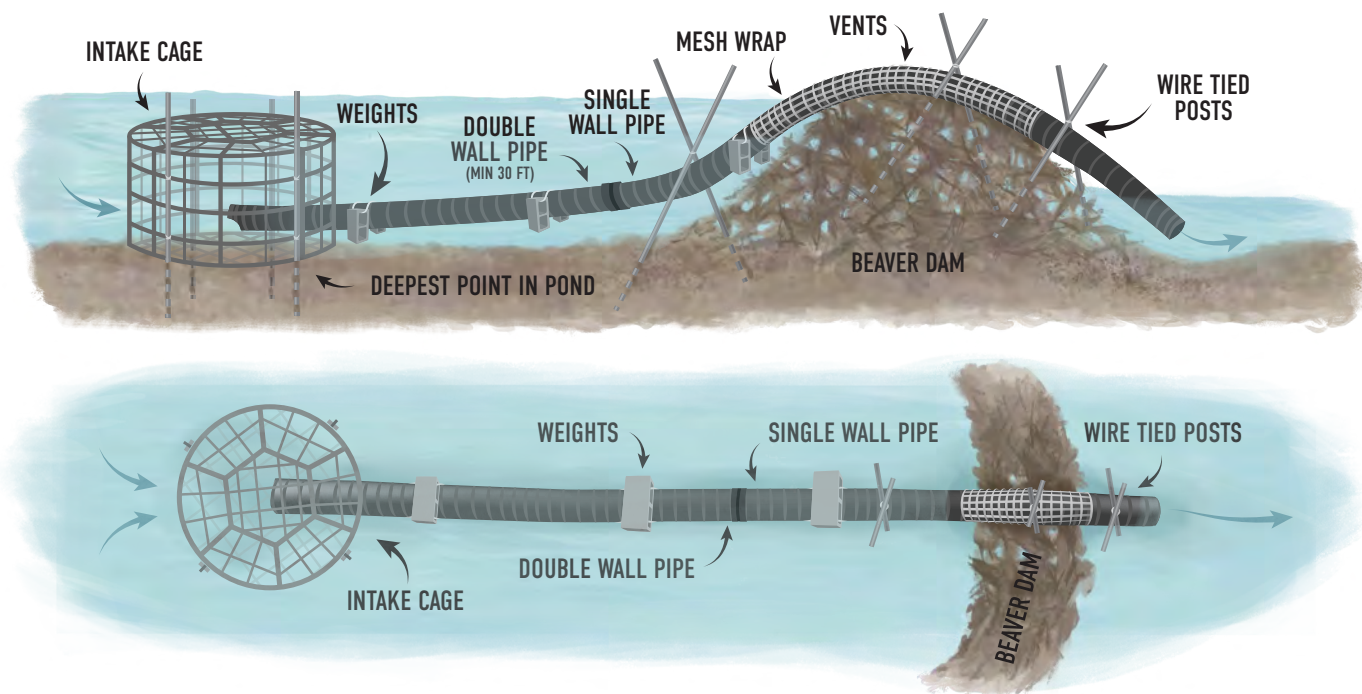

Figure 1. Standard pond leveler with no modifications.
Pond levelers are a coexistence solution for conflicts between beaver-facilitated wetland habitat and human infrastructure, crops, or homes. These flow devices are applicable when the landowner is willing to allow the beaver dam and pond to remain but wants to control the maximum water height. The goal of a pond leveler is to minimize the disruption to the beaver family and their habitat, so they do not abandon the site, while establishing a maximum water height and footprint which protects the landowner's assets. Pond levelers set the water surface elevation of a beaver pond by using a plastic culvert pipe to create a leak over the crest of the dam that beavers cannot repair. The intake for the leak is hidden upstream within the beaver pond and is enclosed within a cage to keep beavers from swimming near enough to sense the flowing water. Similar to an overflow drain on a bathtub which limits the water depth, a pond leveler leaks water over the crest of the beaver dam at a desired water surface height during the low flows when beavers might otherwise increase the height of the dam (Figure 1). The outlet of this pond leveler is placed downstream of the dam.
- **Stabilized flow device:** Staking the intake cage is only necessary where the intake cage is subjected to discernible flows. At these sites, firmly stabilize the intake cage and pipe to keep beavers from moving it and to minimize the need for adjustment after high-flow events. The pipe can be held in place at the dam using steel posts and the intake cage and pipe can be held in place with either steel posts or weights (Figure 1).
2. Select the upstream location for the intake cage. Prioritize maximum water depth, pond width, and the distance from the dam (in that order). Install the intake cage at the deepest point in the upstream pond as far from the beaver dam as the site allows (Figure 1). If possible, place in a sheltered area (like the inside bend of a stream channel slightly outside the thalweg) to minimize debris accumulation during high flow events.
5. Stake the pipe and intake cage in place where possible with steel posts. Where the water is too deep or substrate is too hard (or soft), weigh pipe and intake cage down with concrete blocks or steel weights (Figure 1).
6. Wrap any exposed single wall pipe on the crest of the beaver dam with a wire mesh wrap, typically hardware cloth, to dissuade beavers from chewing into the pipe (Figure 1). Double wall pipe does not need to be wrapped.
13. Run the pipe downstream of the dam a minimum of 4' or into the downstream pool (Figure 1).